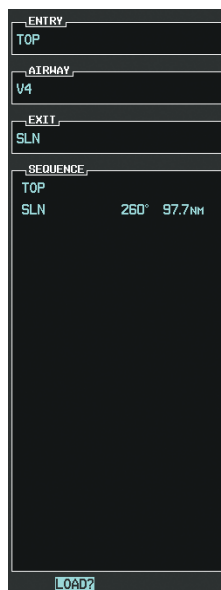

Figure 5-119 Ready to Load V4
- j) Press the **ENT** Key. The selected airway and exit are displayed, and the prompt "LOAD?" highlighted as in Figure 5-119.